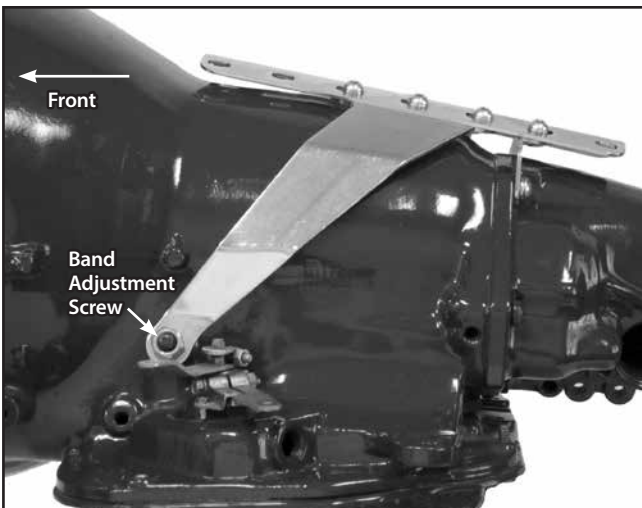

Fig. 3
Step 6: Install the mounting bracket assembly onto the transmission by first placing the left side bracket over the band adjusting screw. Then, position the right side bracket above the bolt holes where the pan bolts were removed. Install the original lock nut back onto the band adjustment screw, but do not tighten. **Again, be sure that you do not change the adjustment.** **Fig. 3** Install two 5/16"-18 x 1-1/2" button head bolts with lock washers through the rear mounting bracket and into the transmission at the tail housing.